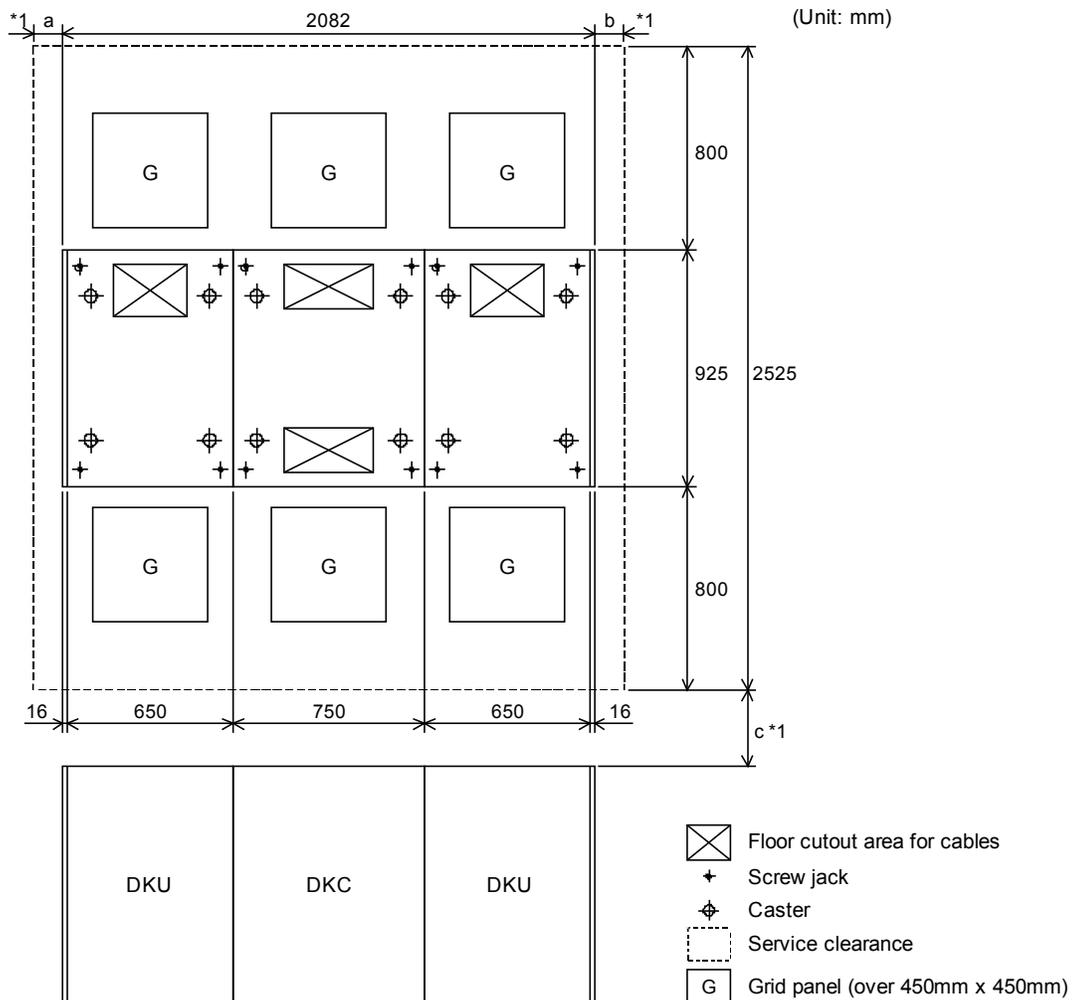

Figure 4.5 Service Clearance and Floor Cutouts for Three Frames
- Figure 4.5 shows the service clearance and floor cutouts for three frames (one DKC, two DKUs). Table 4-6 shows the floor load rating requirements for this configuration.